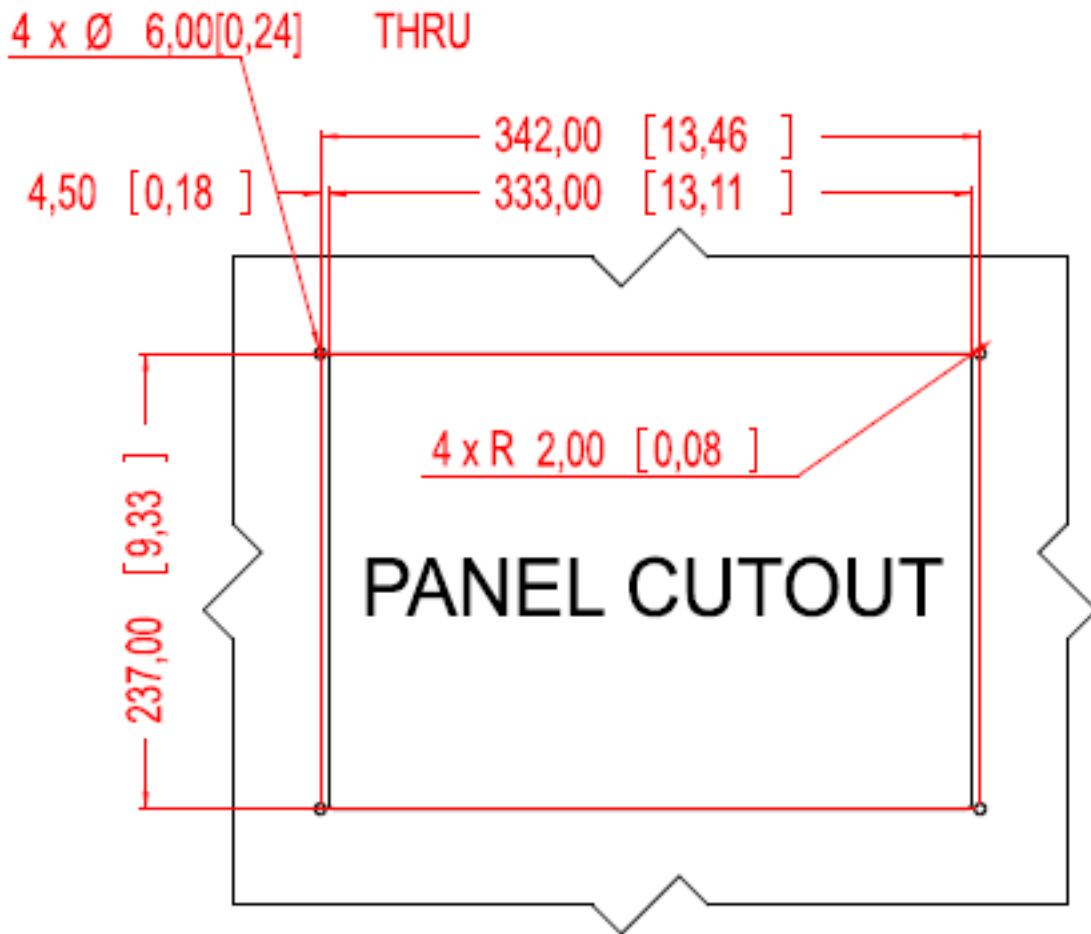

Figure 2 – TSM1330C Cutout Dimensions (units in mm [inches])
Step 2: Cut out a section from the panel that corresponds to the rear panel dimensions of the TSM1330C. Take care that the panel section that is cut out is smaller than the overall size of the front panel of the TSM1330C but just large enough for the rear panel of the TSM1330C to fit through, according to the dimensions in Figure 2 above.
Step 3: Drill four 6mm holes for the M5 studs protruding from the four corners of the front panel according to the dimensions in Figure 2 above.